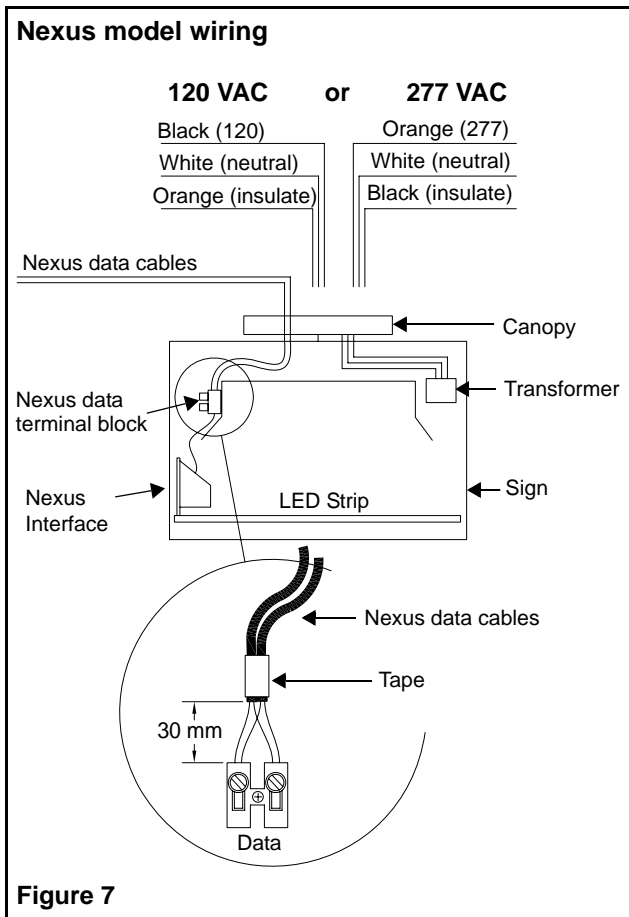

Figure 7
- Note** — For the Nexus models wiring, go to the section “Nexus Models” (see fig. 7).
Refer to figure 7 for the wiring of Nexus models. These units can accept an input voltage of 120 or 277 VAC: